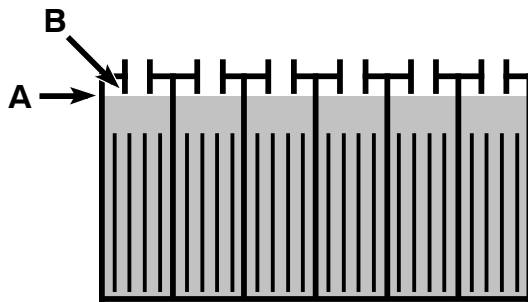

FIG. 26
2. Check the electrolyte level (A) in each battery cell **after charging batteries**. The level should be approximately 1 cm from the bottom of the fill-port (B). Add distilled water if needed (Figure 26) **DO NOT OVERFILL.**